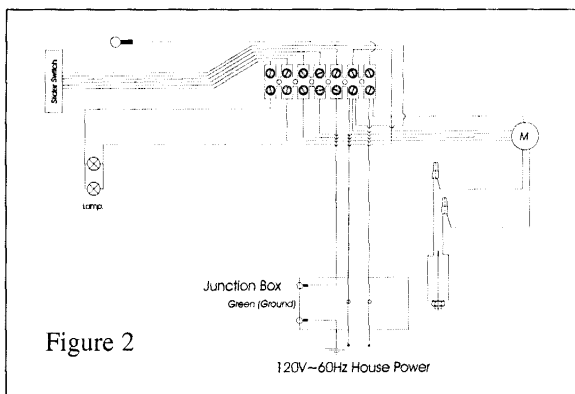

Figure 2
2. Using connectors for officially approved wiring, connect the power conductors to the conductors for the fan: black to black and white to white. Connect the grounding wire (green or bare) to the mass conductor of the fan distribution box. See Fig. 2.